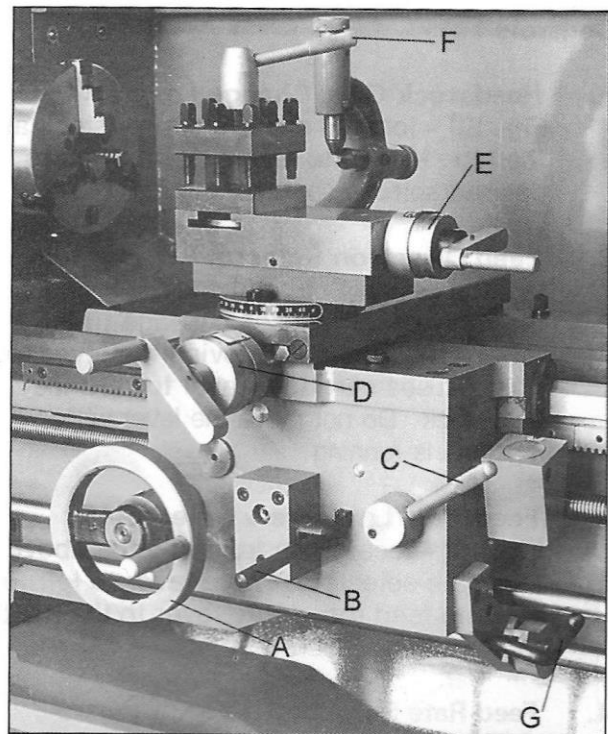

Fig. 12
12. **Longitudinal Traverse Hand Wheel (A, Fig. 12)** – located on the apron assembly. Rotate hand wheel clockwise to move the apron assembly toward the tailstock (right). Rotate the wheel counter – clockwise to move the apron assembly toward the headstock (left).
13. **Feed Selector (B, Fig. 12)** – located in the center front of the apron assembly. Push the lever down activates the crossfeed function. Pull the lever up activates the longitudinal function.
14. **Half Nut Engage Lever (Thread Cutting) – (C, Fig. 12)** – located on front of the apron. Move the lever down to engage. Move the lever up to disengage.
15. **Cross Traverse Handwheel (D, Fig. 12)** – located above the apron assembly. Clockwise rotation moves the cross slide toward the rear of the machine.
16. **Compound Rest Traverse Handwheel (E, Fig. 12)** – located on the end of the compound slide. Rotate clockwise or counter – clockwise to move or position.
17. **Tool Post Clamping Lever (F, Fig. 12)** – located on top of the tool post. Rotate counter – clockwise to loosen and clockwise to tighten.
22. **Forward/Reverse Lever (G, Fig. 12)** – located on the right side bottom of the apron. Push the lever down for counter – clockwise spindle rotation (forward). Pull the lever up for clockwise spindle rotation (reverse). Neutral position, the spindle remains idle.